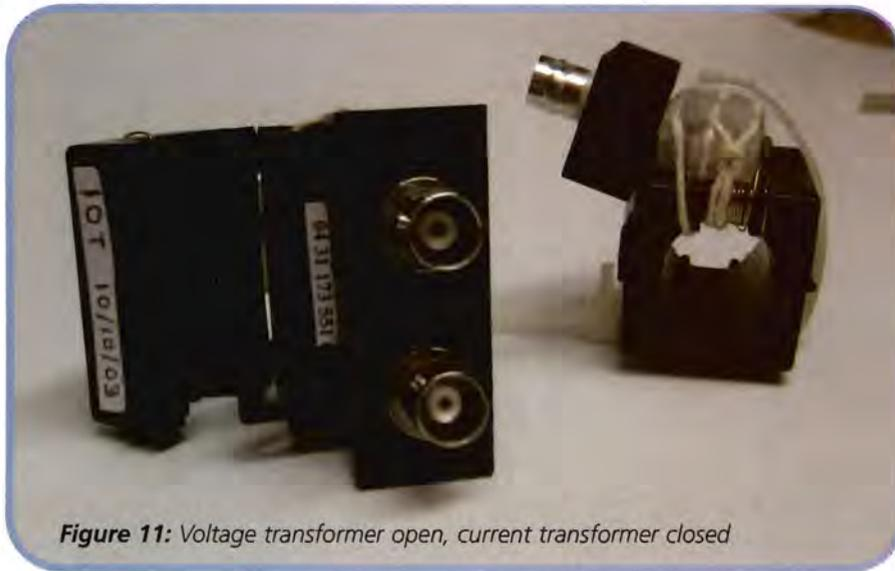

Figure 11: Voltage transformer open, current transformer closed
**Figure 11** is a picture of both assemblies, showing the terminal blocks and BNC connectors. The jaws